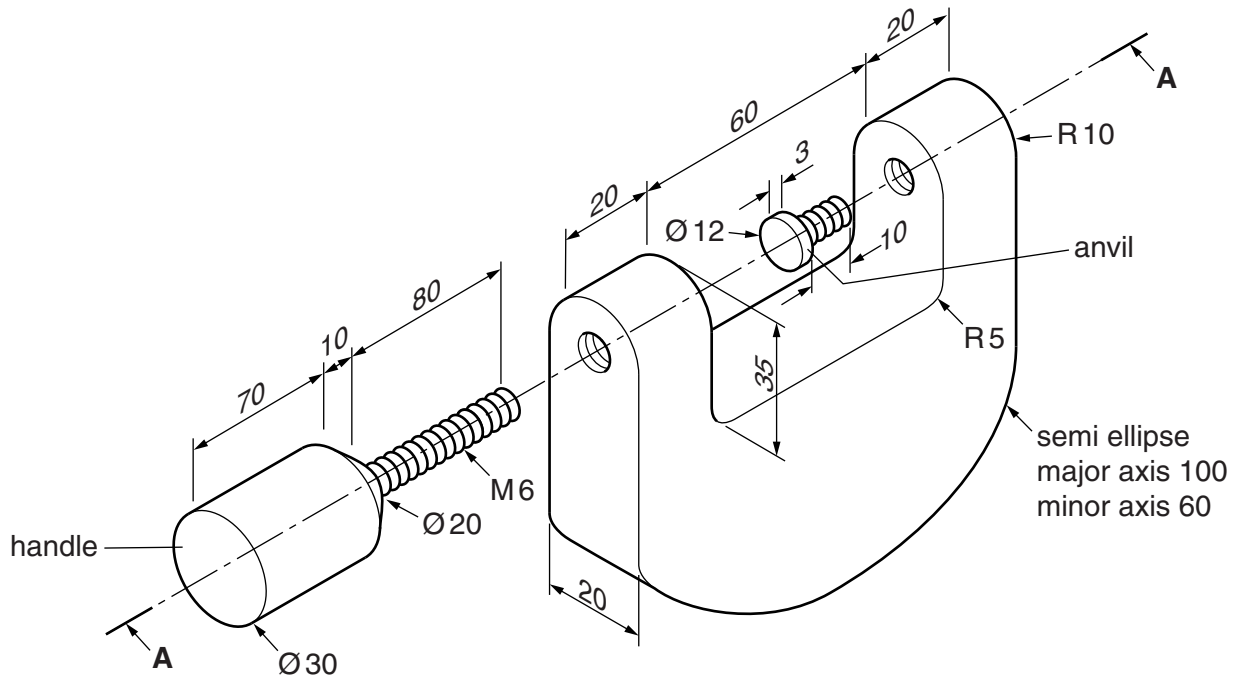

Fig. 5
- 8 Fig. 5 shows an exploded pictorial drawing of a simple micrometer.